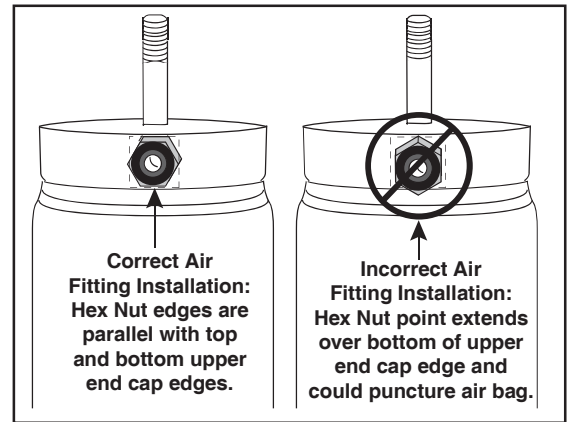

Figure 3
1. Insert the air fitting (B) into the new strut assembly (A). Refer to Figure 3 for proper air fitting installation.
**NOTE:** The fitting must be turned so the base of the hex nut is parallel to the end cap (Figure 3).